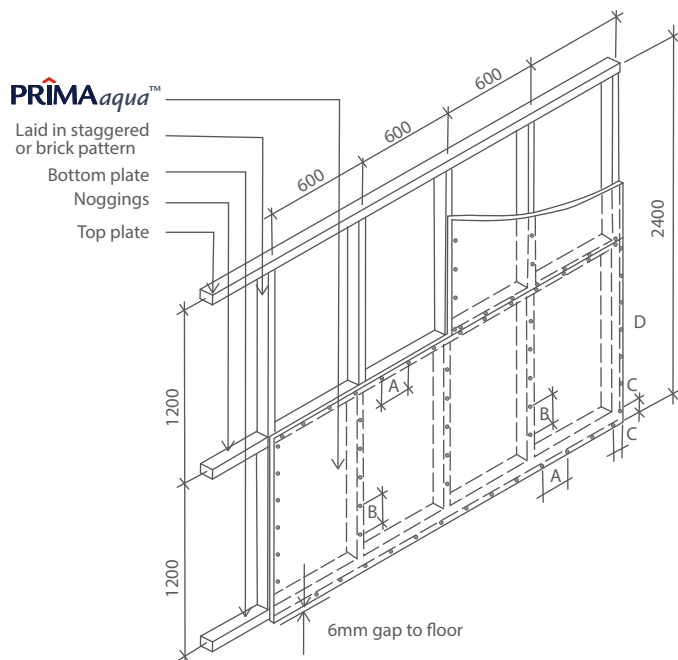

Figure 1: Horizontal sheet fixing
**PRIMAaqua™** sheet may be installed horizontally or vertically. For residential construction, horizontal installation is more convenient. Refer Figure 1.